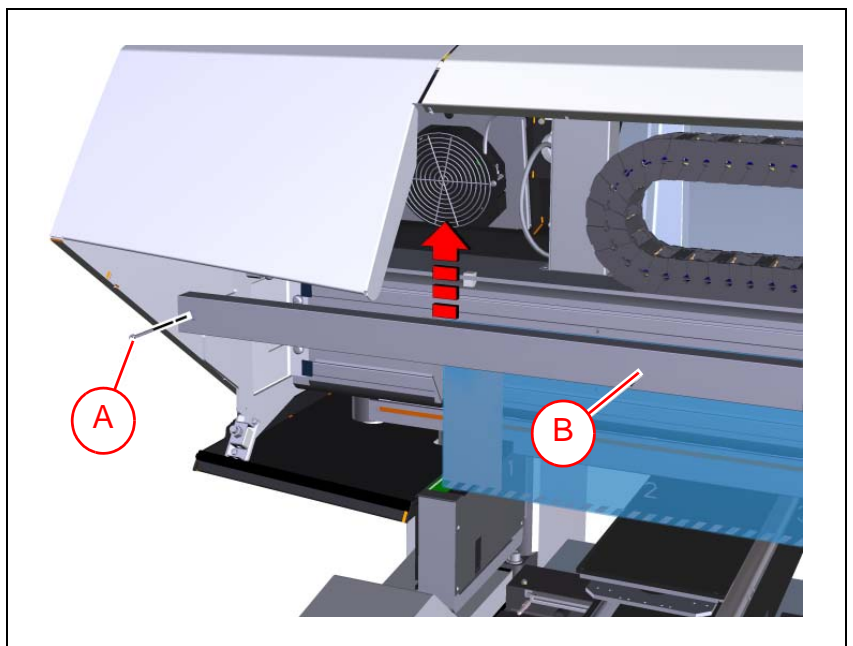

Figure 16-40. Remove glass shield.
2. Remove the two screws ('A' in Figure 16-40) holding the glass shield ('B'), one on each side of the metal beam.